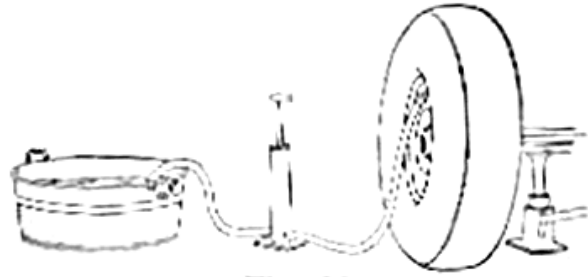

Fig. 38.
2. Hand Force Pump; taking liquid from open container and forcing through the hose and valve adapter into the tube. See Fig. 38.